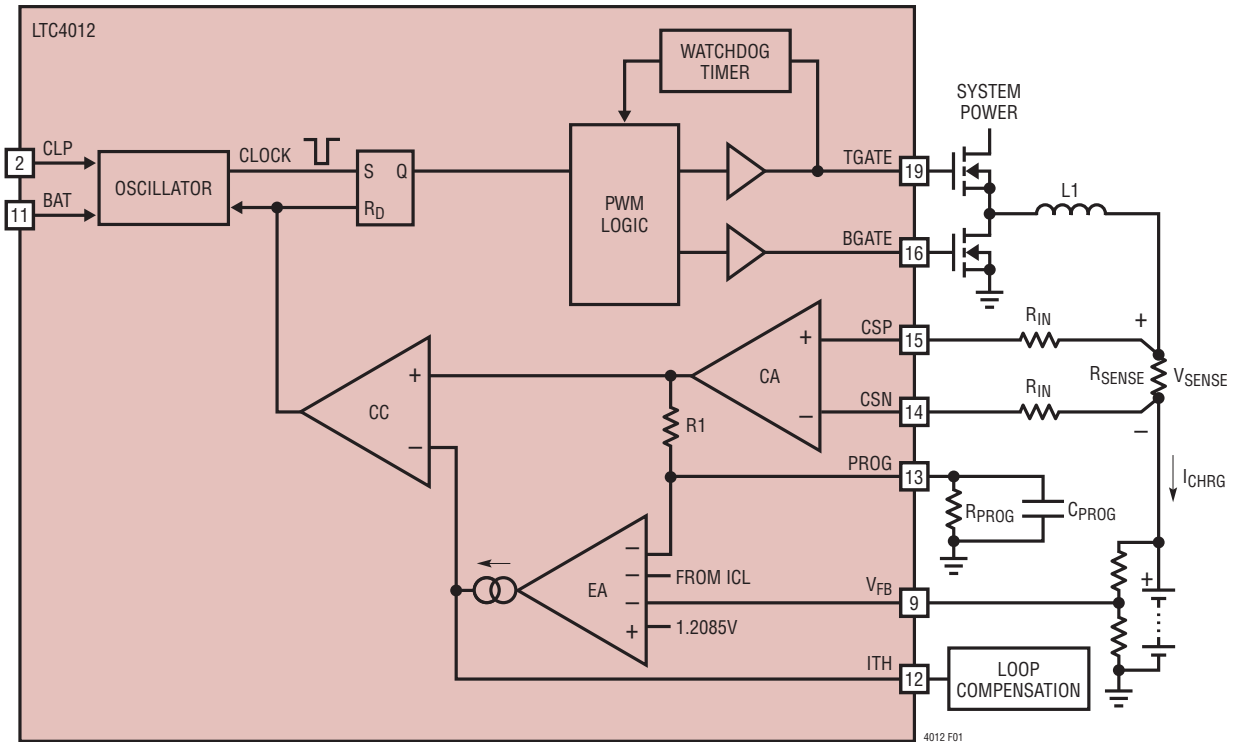

Figure 1. PWM Circuit Diagram
**CSN (Pin 14):** Charge Current Sense Negative Input. Place an external input resistor ( $R_{IN}$ , Figure 1) between this pin and the negative side of the charge current sense resistor. Operating voltage ranges from  $(BAT - 50mV)$  to  $(BAT + 200mV)$ .
**CSP (Pin 15):** Charge Current Sense Positive Input. Place an external input resistor ( $R_{IN}$ , Figure 1) between this pin and the positive side of the charge current sense resistor. Operating voltage ranges from  $(BAT - 50mV)$  to  $(BAT + 200mV)$ .
The LTC4012 is a synchronous step-down (buck) current mode PWM battery charger controller. The maximum charge current is programmed by the combination of a charge current sense resistor ( $R_{\text{SENSE}}$ ), matched input resistors ( $R_{\text{IN}}$ , Figure 1), and a programming resistor ( $R_{\text{PROG}}$ ) between the PROG and GND pins. Battery voltage is programmed with an external resistor divider between FBDIV and GND (LTC4012) or two digital battery voltage select pins (LTC4012-1/LTC4012-2). In addition, the PROG pin provides a linearized voltage output of the actual charge current.
When the LTC4012 is charging, the voltage on the PROG pin varies in direct proportion to the charge current. Referring to Figure 1, the nominal PROG voltage is given by
The LTC4012 uses a synchronous step-down architecture to produce high operating efficiency. The nominal operating frequency of 550kHz allows use of small filter components. The following conceptual discussion of basic PWM operation references Figure 1.